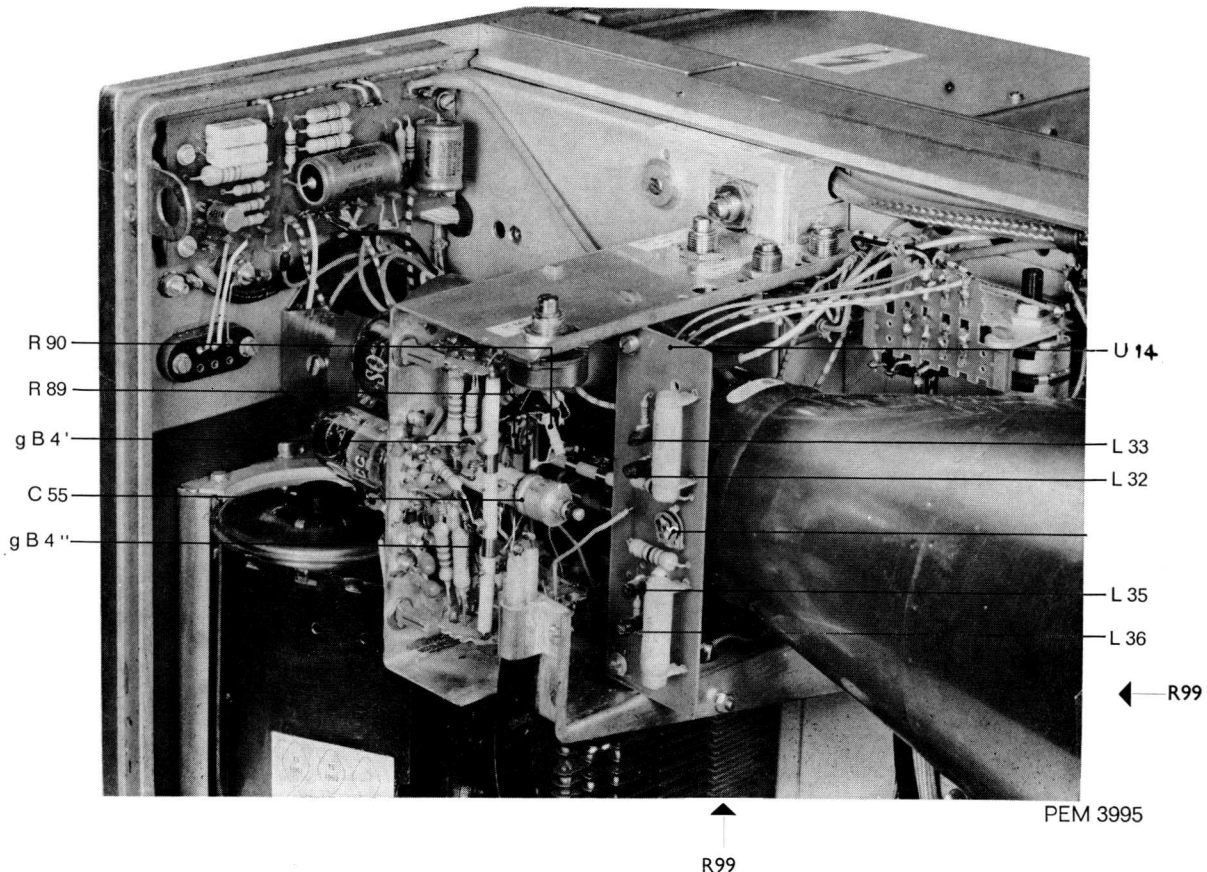

Fig. 55. Close-up of the final stage of the Y-amplifier (U14)
R 99 (Fig. 55)
R89 (Fig. 55)
C55-L32-L33-L35-L36-R75-R90 (Fig. 55)
- Simultaneously adjust C55 and R75 (Fig. 55) to a minimum rise-time ($\geq 6 \text{ nsec.}$) and a flat top of the squarewave. The influence of C55 can be restricted or increased by changing the value of R90 (Fig. 55). The transition between the leading edge and the flat top of the display can be squared and flattened out by C33 and R53.